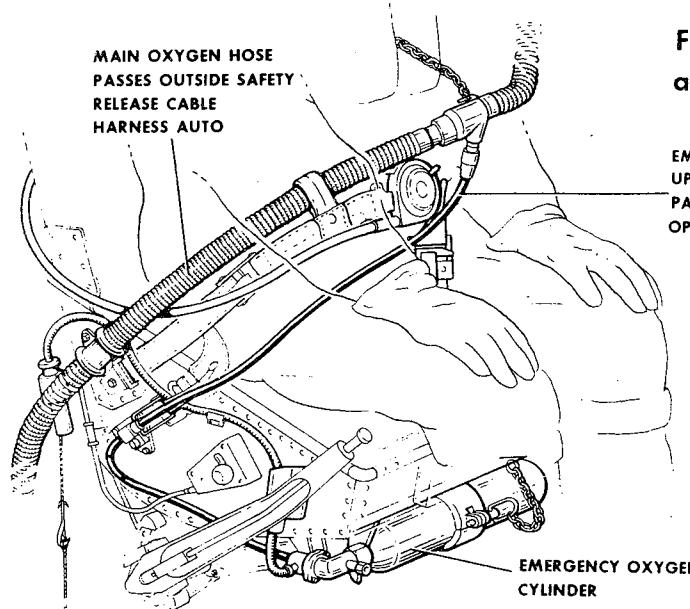

Fig. 4 Arrangement of oxygen supply on seat
(2) Place the safety harness shoulder straps over the back of the parachute pack container and ensure that the lap straps, leg restraint cords and negative-restraint strap are clear of the seat pan.
(3) Sit in the seat and raise it fully.
(4) Fit the emergency oxygen cylinder into its mounting bracket, ensuring that the operating head is to be the starboard side of the seat and that the supply tube faces aft.
(5) Clamp the cylinder into its bracket and fit the locking pin into the clamp.
(6) Secure the bayonet union plug of the supply tube in the clamp on the starboard side of the seat pan and, having arranged the tube as shown in fig. 4, fit it into the spring clip below the clamp.
(7) Fit the emergency oxygen cylinder operating cable housing into the two clips on the starboard side of the seat pan.
(8) Ensure that the cable housing passes outside the safety harness lap strap and UNDER the main oxygen supply hose (which should be outside all straps and cables) and does not loop over the safety harness automatic release cable; connect the operating cable to the anchor section of the static line and fit the housing ferrule into the anchor socket.
(9) Connect the anchor hook to the static line-cum-manual operating cable.
18. The strapping-in procedure is as follows reference being made to figs. 4 to 7 as necessary.